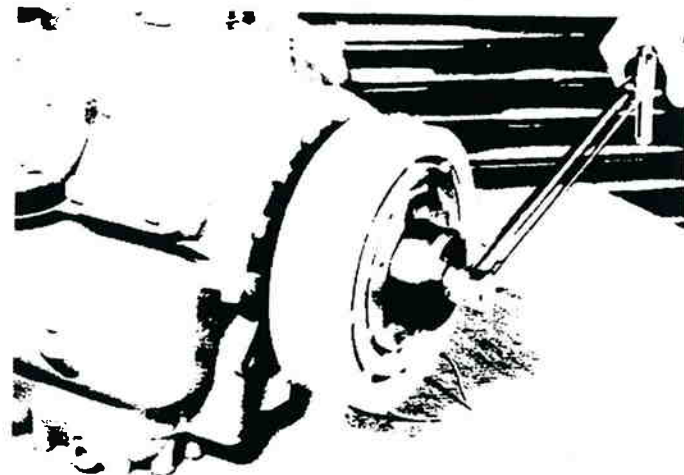

Figure 16-58: Tightening Bearing Retaining Nut
6. Install bearing retaining nut, using tool 20-294 and a torque wrench. See figure 16-58. Due to the self-locking feature of the nut, observe the torque required to seat the bearing against the hub. After the bearing seats, tighten the nut 50 lb.-ft. (68 Nm) greater than the bearing-seating torque.